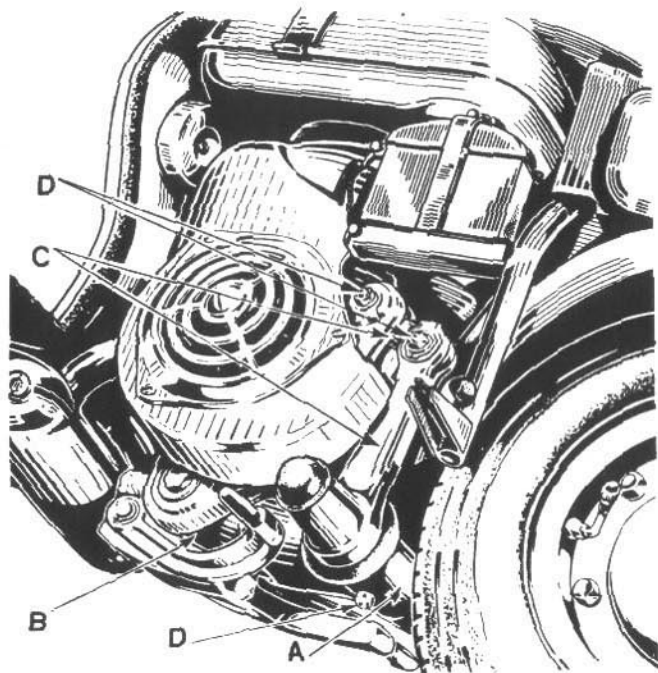

Fig. 3
The rear suspension (fig. 3) is designed with a long swinging arm, consisting of the transmission case, and pivoting on a robust pin incorporated in the frame. Through its movement the swinging arm loads the suitably supported torsion bar made of high-tensile steel set in casing (A).